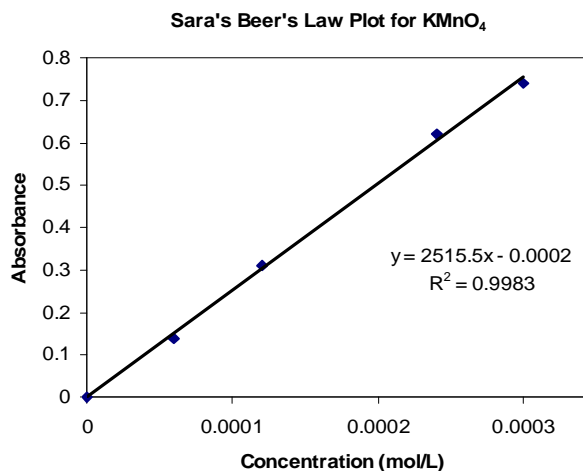

Figure 2: Sample Beer's Law Plot
- a Construct a Beer's Law Plot from the data in Table 3. See Figure 2 below for an example. Make sure to label your axes and provide a descriptive title.